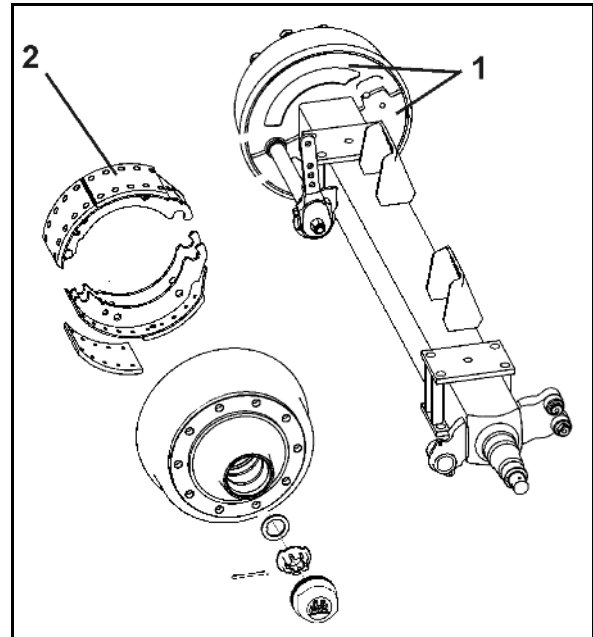

Fig. 118
1. Unscrew the two cover plates (Fig. 118/1) on the inside of the brake drum.
**Dirt entering the drums may be deposited on the brake pads (Fig. 118/2) and thus appreciably reduce brake performance.**